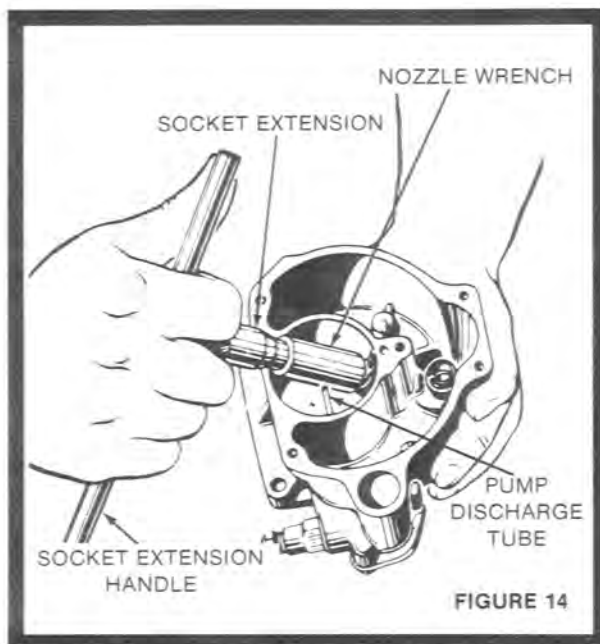

FIGURE 14
- 67) Install idle tube (48) in casting exercising care not to damage the tube. Torque in firmly.
- 68) Install pump discharge check valve assembly (53), gasket (55), and safety washer (54). Bend tabs to safety valve in location.
- 69) NOTE: Do not disassemble the pump discharge valve (53). It is factory preset. If it has been disassembled, it must be replaced.
- 70) Install pump inlet check valve assembly (62), inlet screen (61), gasket (60), housing (59), and flange (58), and secure with screws (56) and safety washers (57). Bend tabs to secure.
- 71) Install drain plug (49) with a small amount of thread lube. (CAUTION — Make sure no thread lube can be put in ahead of the plug).
- 72) Place power jet gasket (52) on shoulder of power jet in the base of nozzle and insert nozzle through gasket safety washer (51), and install nozzle firmly into the bowl casting. See figure 14.